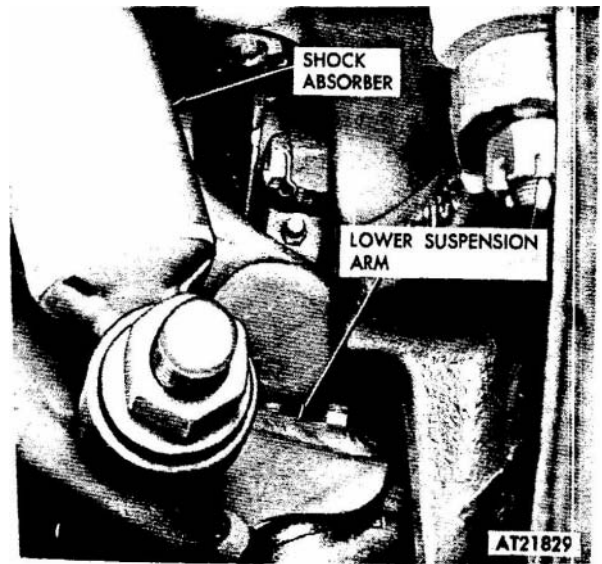

Figure 2-176. Shock absorber (at front suspension), removal and installation.
(1) Disconnect shock absorber from the upper suspension arm by removing its attaching hardware (fig 2-176).
(2) Compress shock absorber and move upwards to provide accessibility.